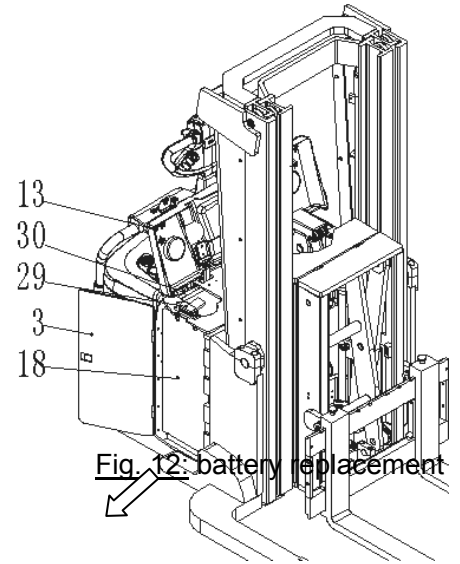

Fig. 12: battery replacement
Park the truck securely and switch off the stacker with the key (4) and activate the emergency button (6). Open the door (3) and battery cover (13) first, then remove the fixing plate(29) and remove the battery plug (30). Remove the battery (18) according to fig 12 by using a dedicated and securely parked battery exchange device. Pay attention, if this device is not secured, the battery might fall down. The installation is in the reverse order of the removal. Otherwise the tuck could be damaged.